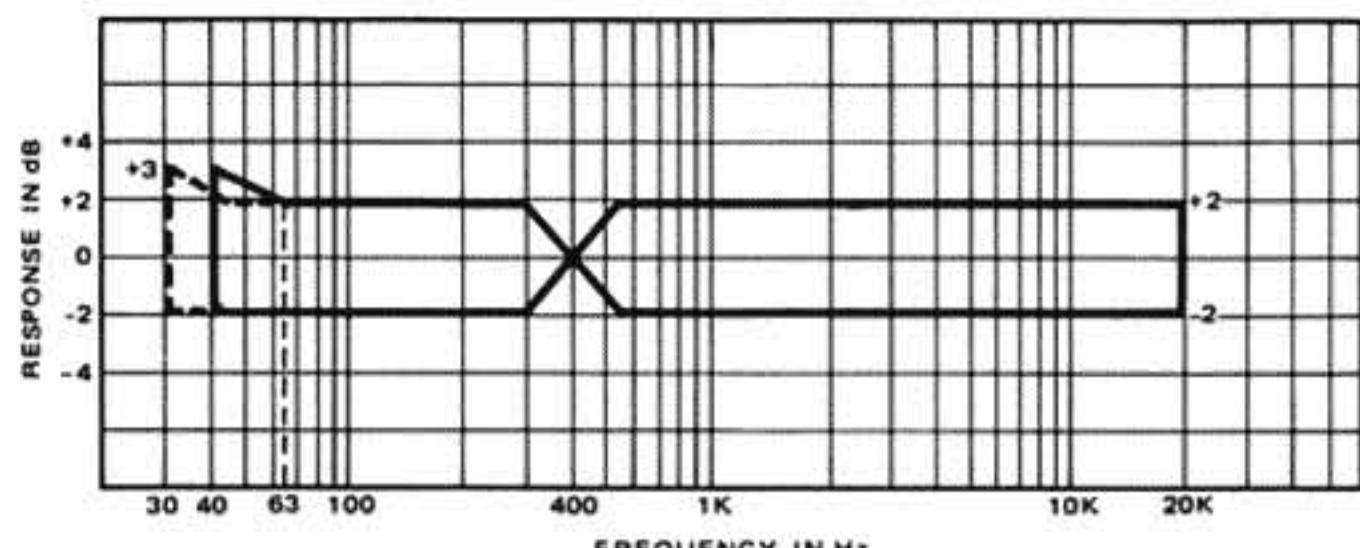

Figure 6-3. Reproduce Frequency Response
- Reproduce the test tape, and check the output level readings meet specifications for each of the frequencies specified in Figure 6-3.
Output level from the 400 Hz recording serves as the reference. (See Figure 6-3 for specifications.)
- Reproduce the test tape, and check the output level readings are within specifications. See Figure 6-3 for specifications.